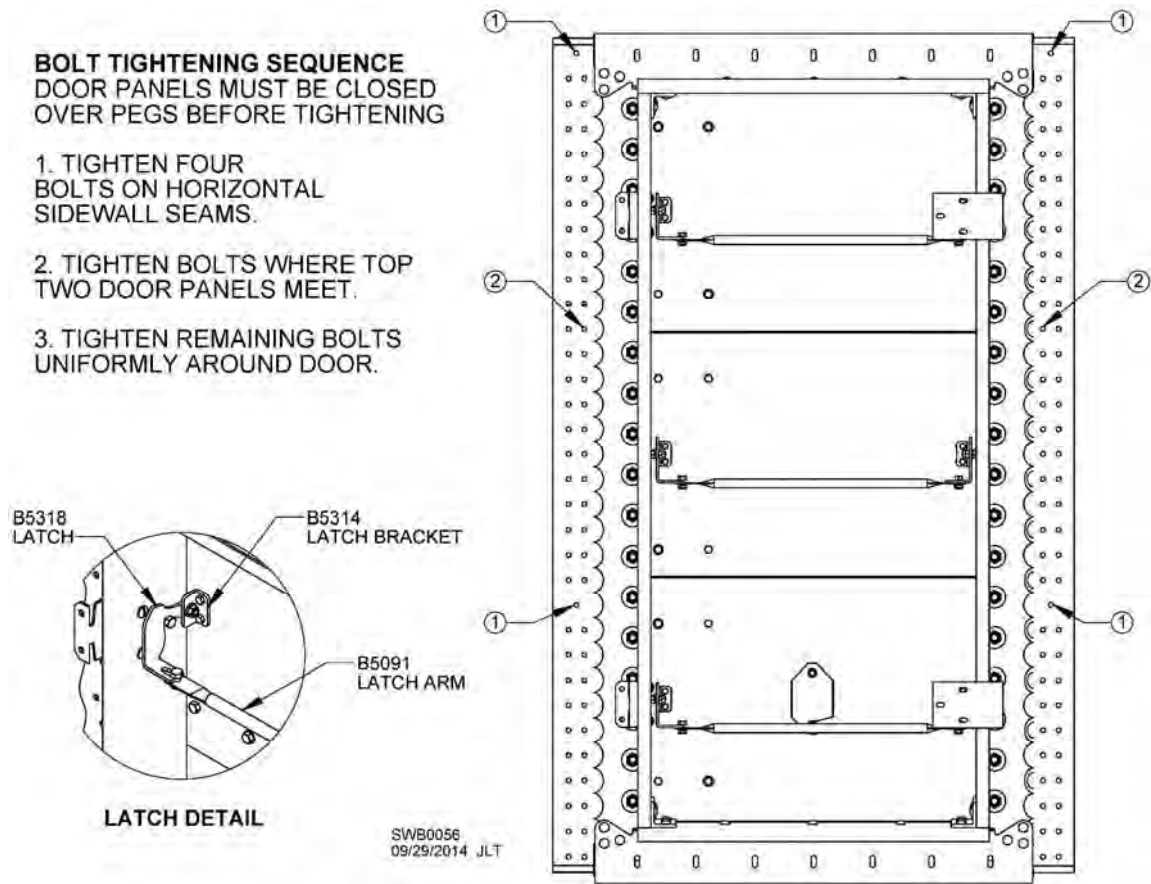

Fig. 2
5. Place door panels back into door frame. Make sure they close completely over pegs. Lock hammer-head latches. See Fig. 2. (View is from outside of bin.)
6. Tighten door frame bolts in sequence shown in Fig. 2. Complete by working around door frame until all bolts are tightened. No particular sequence is required for rest of bolts.